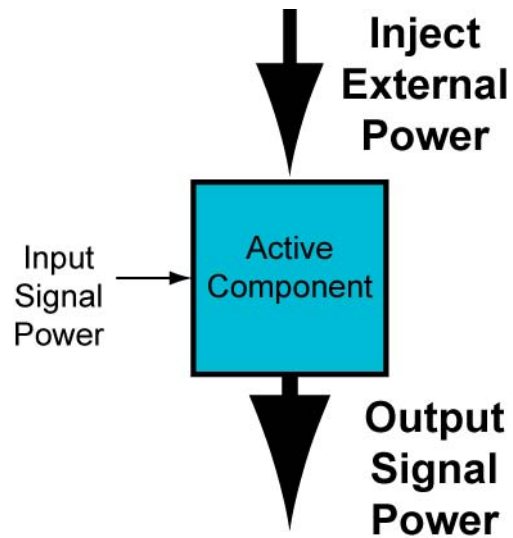

Figure 10: An Active Electronic Component Injects Power into a Circuit
- Active Components: A transistor is an example of an “active” electronic component. An active component injects power into a circuit. A transistor produces an output signal that has more power than the input signal. It is able to increase the power of a signal because it injects power from an electrical power source that is separate from the signal (Figure 10). A passive component has no power gain, in fact, they often cause power to be lost (example: resistor).